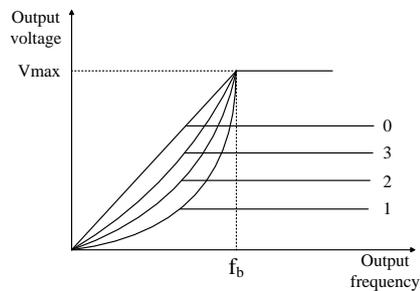

Figure 4-2 Motor V/F curve
- The default V/F is a straight line, as the line0 in Figure 4-2.
- When P00.23 (P06.01) is set to 1, it is a 2.0 law ramp, curve1 in figure 4-2.
- When P00.23 (P06.01) is set to 2, it is a 1.7 law ramp, curve2 in figure 4-2.
- When P00.23 (P06.01) is set to 3, it is a 1.2 law ramp, curve3 in figure 4-2.